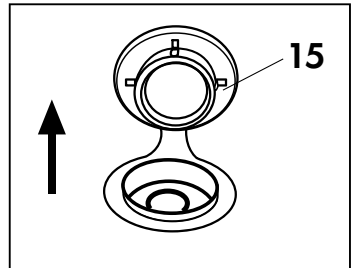

Fig. 8
Pour tap water or foam-free detergents into the detergent tank after lifting the fill cap (15) (Fig. 8)